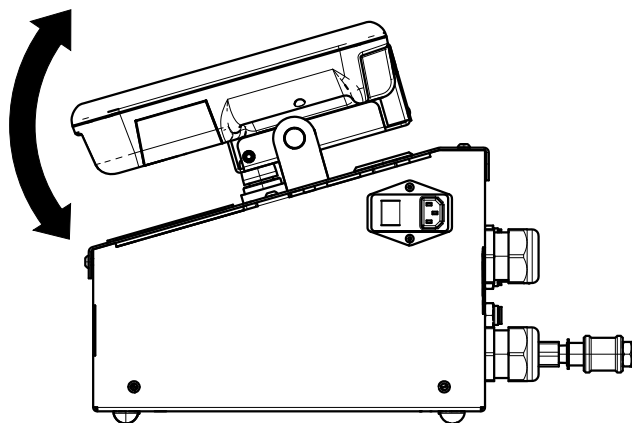

FIG. 29
2. Adjust angle of ADM for better viewing. See FIG. 29.